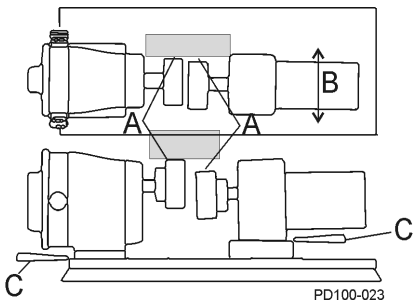

Figure 25 - Check Parallel Alignment
2. Using a feeler gauge at location “A” in Figure 25, determine the direction and amount of movement needed (Figure 25, item B).